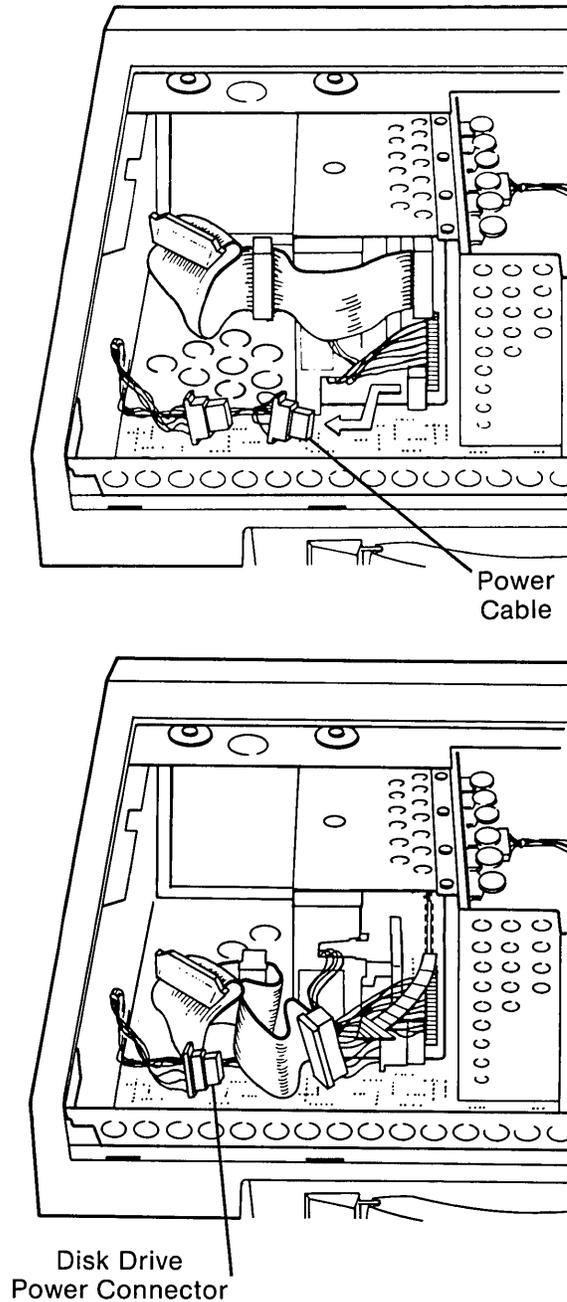

Figure 7-26. Disconnecting Signal Cable and Power Cable From the Floppy Disk Drive.
- 10 Disconnect the signal cable and the power cable from the floppy disk drive (see Figure 7-26).